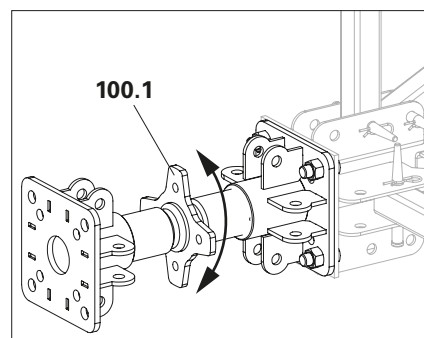

Fig. A1.20b
3. Pre-set the height of the Spindle ATS 360-550 (**100**) on the spindle ring collar (**100.1**). (Fig. A1.20b)